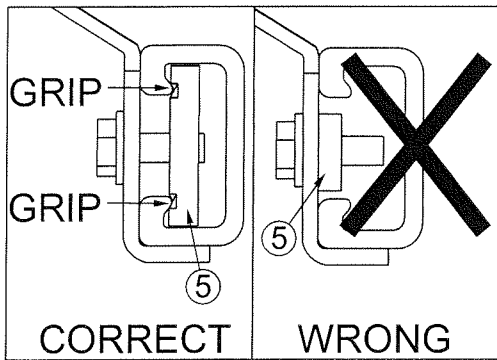

Fig. 9
- Ensure Anchor Plates (#5) are aligned vertically with the grips on both upper and lower lips of the utili-track channel opening, otherwise brackets may not be completely secured to channel. (See Fig. 9)